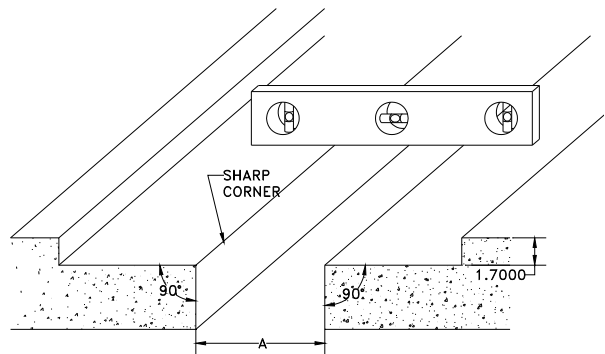

Figure 2
B. The deck and the base of the blockout must be formed level and at the same elevation across the joint (Figure 2). The joint interfaces must be parallel to, and continuously equidistant from, each other. They are to be perpendicular to the base surfaces of the recess - making the corner a perfect “sharp” 90° angle.